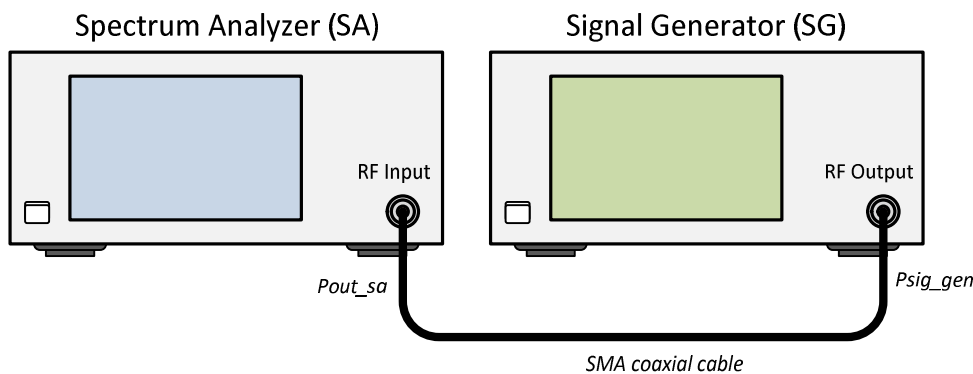

Figure 3 = SMA coaxial cable loss measurement setup
We can measure the cable losses by using the setup shown in Figure 3.
1. Connect the SMA coaxial cable used for connecting the SG as shown in Figure 3. This cable will be referred to as Cable-SG. Label this cable for identification.
2. Connect the SMA coaxial cable used for connecting the SA as shown in Figure 3. This cable will be referred to as Cable-SA. Label this cable for identification.